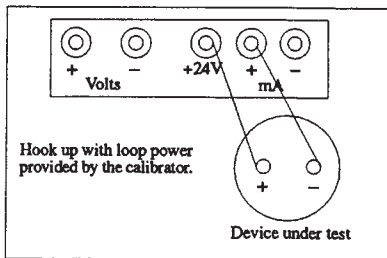

Figure 2.
4. Connect the pressure switch output to the +24 and + mA jacks on the DPC as shown in figure 2.